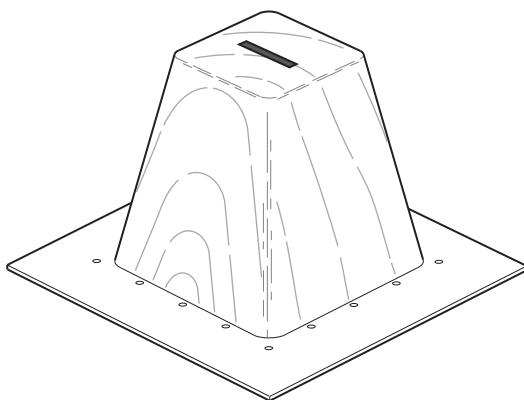

Fig. 5
- (b) Fig. 5 shows the former used when vacuum forming the plastic.